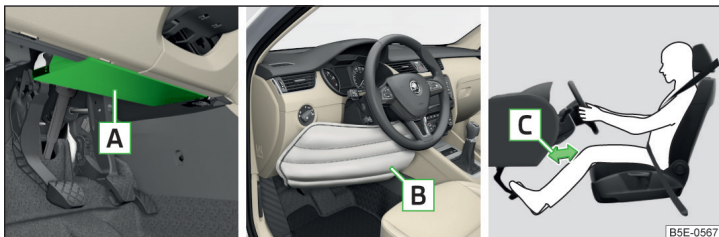

Fig. 9 Installation of the airbag / Gas-filled Airbag / Safe distance between the legs and the instrument panel
The driver's knee airbag **A** is located in the lower part of the dash panel below the steering column » Fig. 9.
- Adjust the driver's seat in a forward/back direction so that there is a gap of at least 10 cm between the legs **C** and the instrument panel in the vicinity of the knee airbag » Fig. 9. If it is not possible to meet this requirement due to your body size, visit a specialist garage.